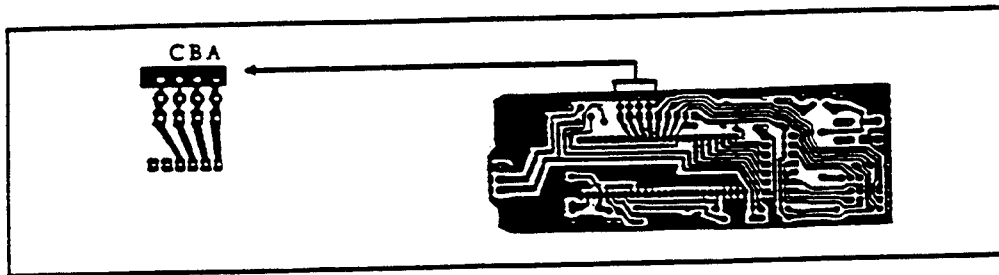

Figure 17
To alter an address (frequency) on the "Parent" motor (ZZCM101), a connection(s) on the Central Processing Unit must be cut (*Figure 17*). The picture shows a CPU and an expanded view of the connection(s) that must be cut to change the address. Remember, only the "Parent" motor needs to have it's address changed. Regardless of the address the "Parent" motor is set to, the "Kid" motor(s) respond to the next higher address(es).
4. Locate connections that need to be cut. (Figure 17)